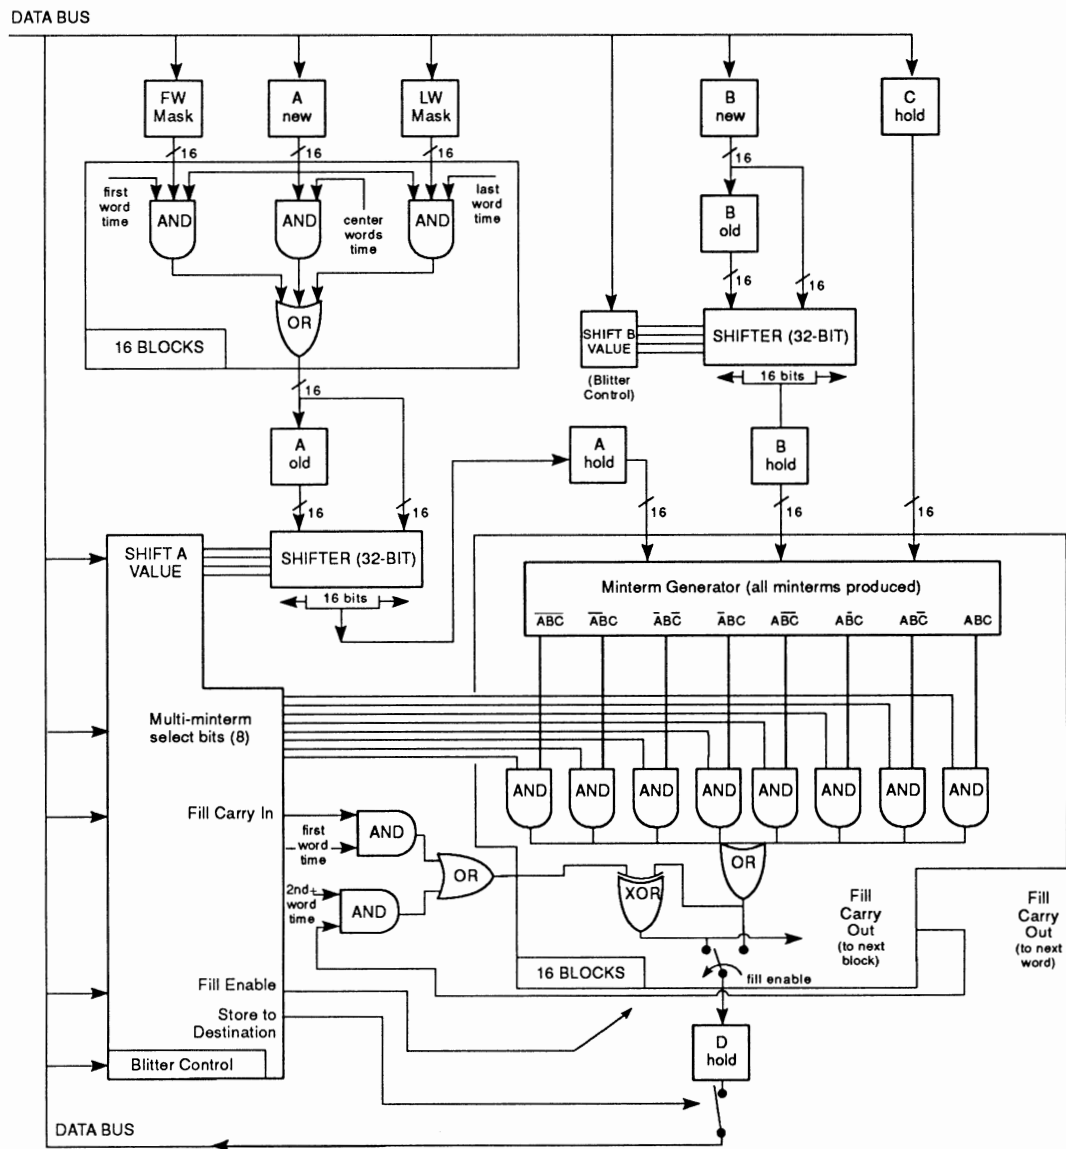

Figure 6-13: Blitter Block Diagram
- Figure 6-13 shows the basic building blocks for a single bit of a 16-bit wide operation of the blitter. It does not cover the line-drawing hardware.